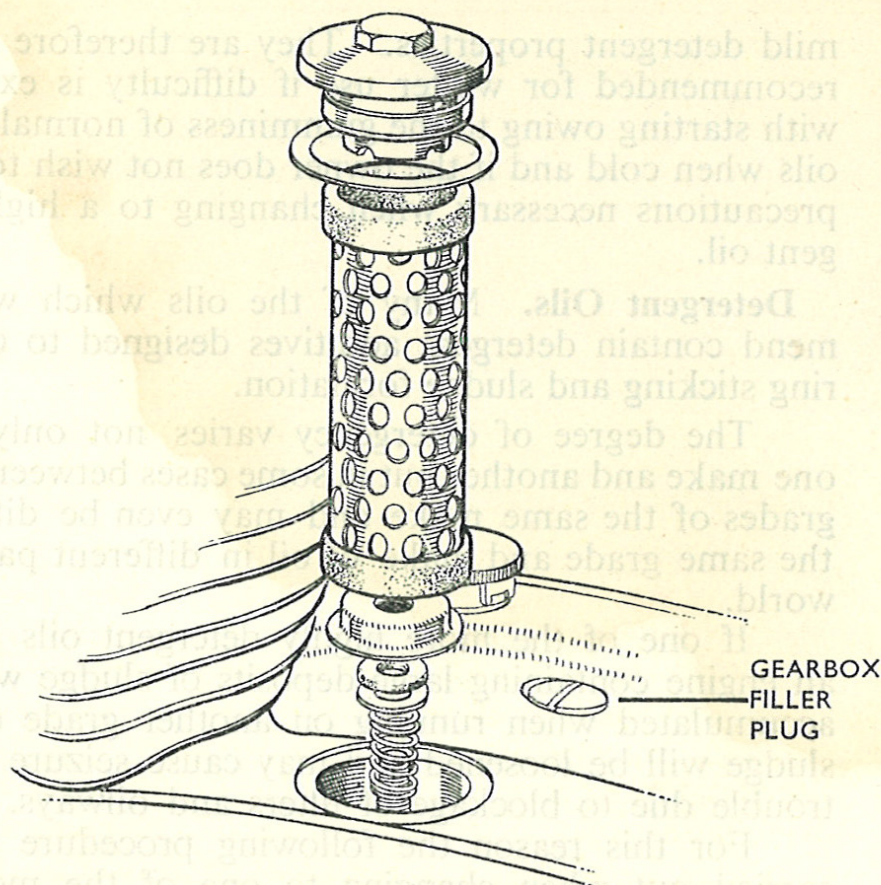

Fig. 2.—Exploded View of Felt Oil Cleaner.
- 9 **Felt Oil Filter.** The construction of this is clearly shown in Fig. 2. The felt filter element should be cleaned by washing in petrol every 2,000 miles and in addition the element should be renewed every 5,000 miles.